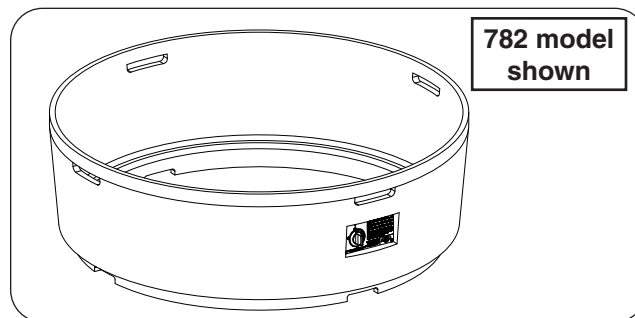

Fig. 32-1 Place base
1. **CAREFULLY** place the base in an appropriate location (see Fig. 32-1, and refer back to the LOCATION section if needed).